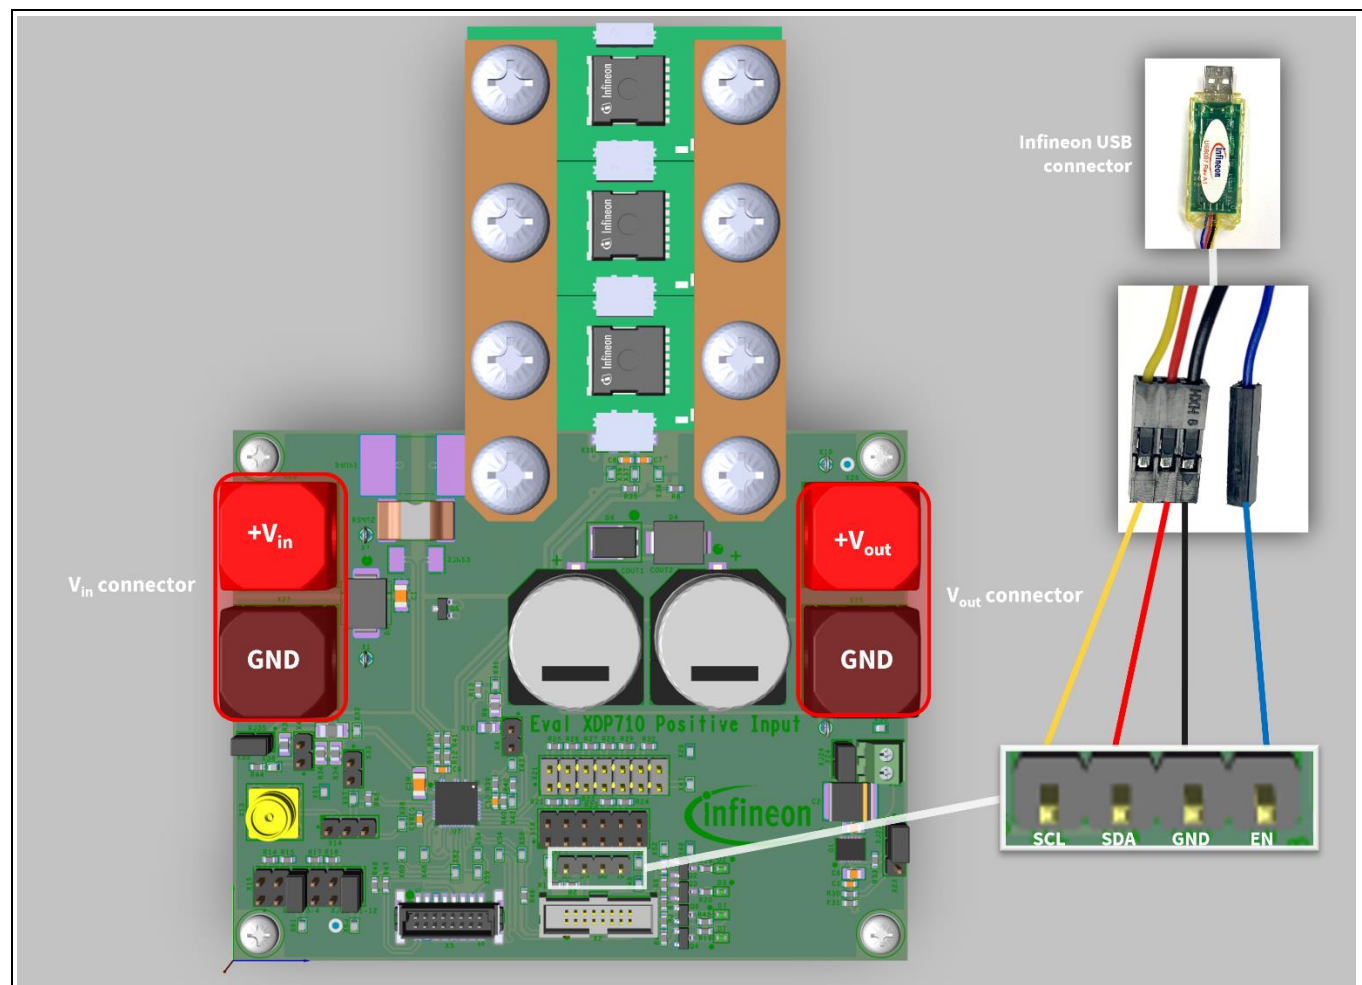

Figure 18 XDP710 evaluation board and dongle setup
- Connect the USB007 dongle to the XDP710 evaluation board X3 as shown in Figure 18.